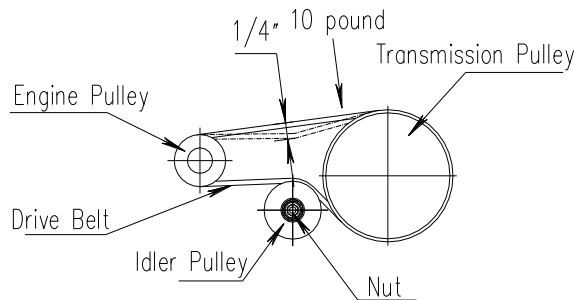

FIG 10
- Transmission drive belt is on the underside of the engine frame weldment. Adjust the belt so that the belt moves 1/4" with 10 pounds of pressure; adjust the tension by moving transmission drive idler pulley, then tighten all the nuts. (See FIG 10)